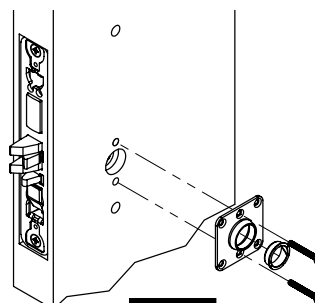

Figure 19
3. Install inside adapter plate. (Figure 19)